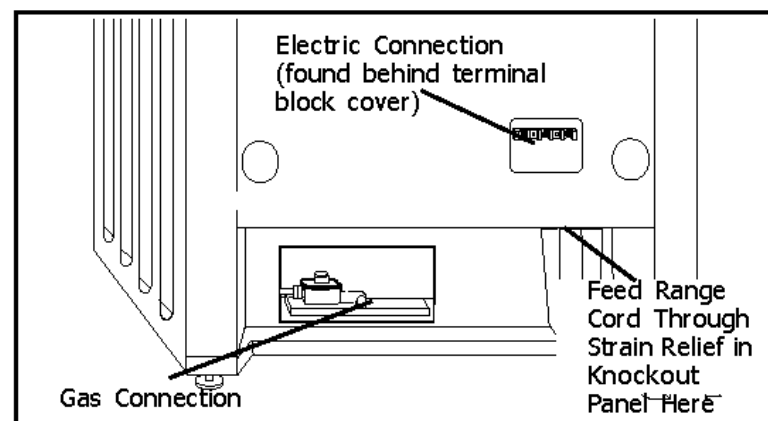

Figure 4
The power supply shall be connected to the range terminal block compartment located near the bottom of the back panel (See Figure 4, at right). It is accessible by removing the terminal block cover.
Place strain relief in knockout below terminal block (See Figure 4 below). Feed range cord through hole and strain relief up to terminal block. Allow for slack in the cord between the strain relief and terminal block. Once cord length/ slack has been adjusted, attach strain relief per instructions included with strain relief. Connect wiring as described below and on next page.
Assemble LP Cooktop Orifices. Place in cooktop exactly as layed out in the cover of this manual (also shown in Figure 3). If the orifices become separated from the cover, placement can be determined by matching the number stamped into the orifice with the placement specifications displayed in Figure 4. Place the new orifice into the socket then insert each orifice into its respective threaded hole in the jet holder. Tighten until the orifice stops turning. DO NOT OVER TIGHTEN.
- 3. Insert flat head screwdriver into shaft and turn bypass screw clockwise until it stops turning (See Figure 4). DO NOT OVER TIGHTEN. Replace knobs, springs and bezels.